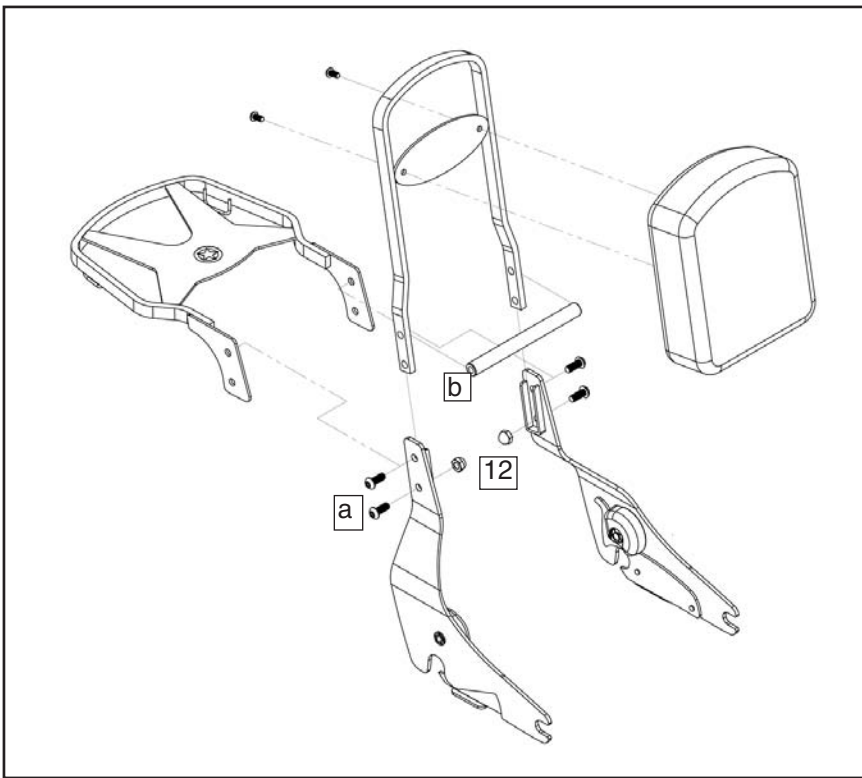

Figure 3
1. Assemble side plates (1) and (2) to the Paladin backrest alone or with the Paladin luggage rack. **(5mm Hex Wrench) Figure 3**
2. Use items (a) button head screw and (b) support stay (provided with the backrest kit) and item (12) cap nut (provided in this kit) to complete assembly of the side plates. **(5mm Wrench) Figure 3.**